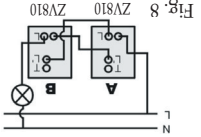

Fig. 8
- 3. To replace both 2 way switches in a two way circuit. (See Fig. 8)
3. When two sensor switches are used in a two way circuit (See Fig. 8) the operation will be as follows:-